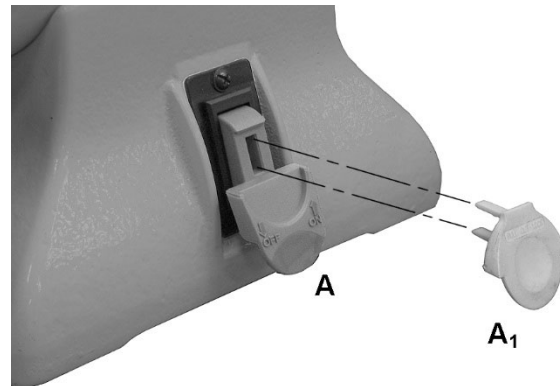

Figure 9: safety key
**IBG-8, IBG-10:** Pull the paddle switch (A, Figure 9) to start grinder, push to stop. The safety key (A1) can be removed to prevent unauthorized use of the grinder. The safety key must be inserted to restart the grinder.